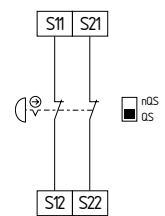

Fig. 9
**Dual-channel emergency stop circuit with command devices to DIN EN ISO 13850 (EN 418) and EN 60947-5-5 (Fig. 9)**